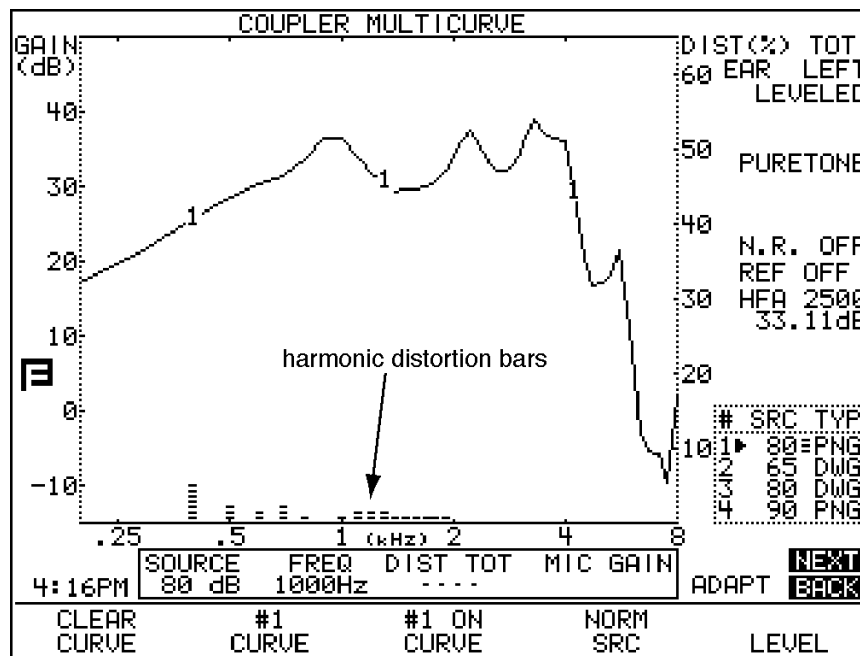

Figure 2.2.4—Harmonic distortion measurement
10. Look at the bars at the bottom of the graph. The scaling for these bars is on the right side of the graph. This is the amount of harmonic distortion measured with the pure-tone sweep. See Figure 2.2.4.